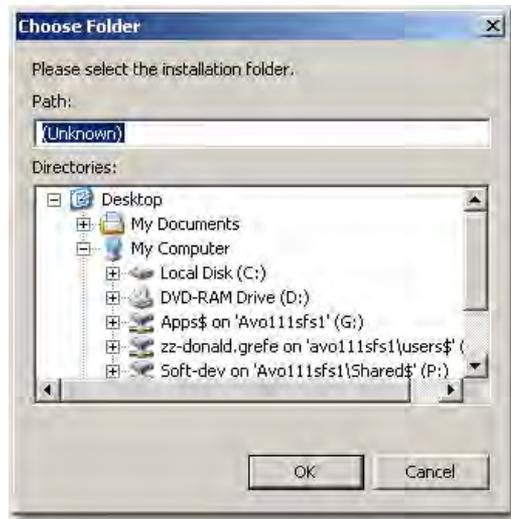

Figure 16 Choose Folder
5. Click **Change** and the *Choose Folder* dialog appears (Figure 16).